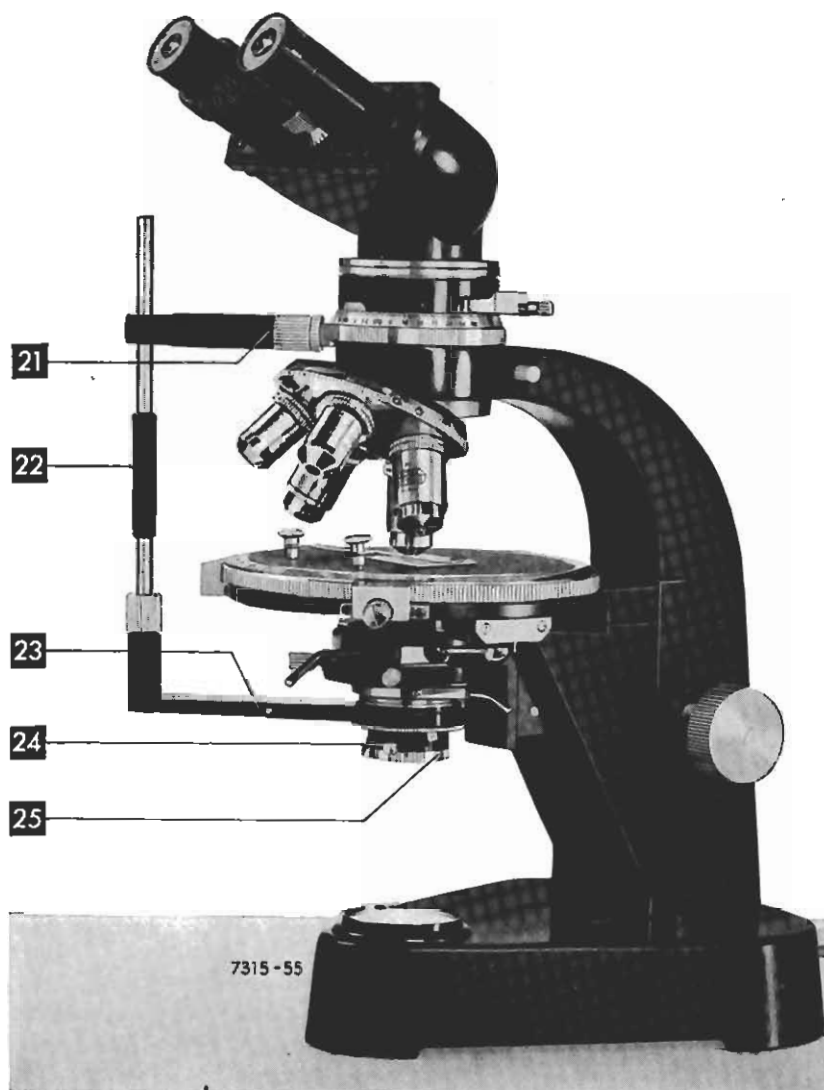

Fig. 6
6. If the microscope is supplied with an attachment for synchronous rotation of the polarizer and analyser this should be fitted as follows (fig. 6).